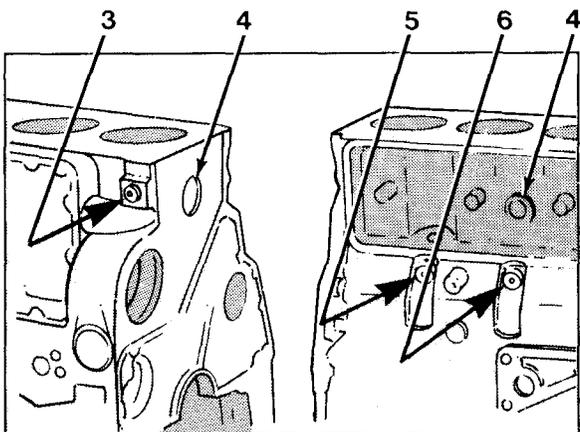

Figure 6-3
3. Remove pipe plug (3, Figure 6-3) from oil passage.
4. Using a center punch, make a hole in center of water passage expansion plugs (4).
5. Using a suitable prybar, remove water passage expansion plugs (4) from water passages.
6. Remove oil sampling valve (5).
7. Remove oil pressure sending unit (6).